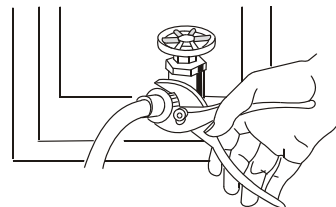

Figure 2
2. Respectively attach the water inlet hoses to the water faucet . Using pliers,tighten the coupling . ( As figure 2)